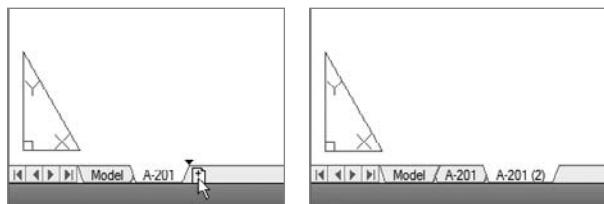

FIGURE 14.60 Using Ctrl+left-click to copy an existing layout (left), the copied layout (right)
8. Press and hold the left mouse button, and then press the Ctrl key on your keyboard. Move the mouse to the right, and when a small arrow displays to the right of the A-201 layout tab, release (see left image Figure 14.60).
TIP If the layout copies to the left of the A-201 layout, use the mouse to drag the A-201 (2) layout to the end, as shown in the right image of Figure 14.60.
10. Select and then right-click on the A-201 (2) layout tab and select Rename from the contextual menu that opens. Rename the tab to A-202.